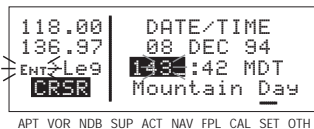

Figure 3-166
- Move the flashing part of the cursor to the tens of minutes, select the proper number (figure 3-166), then move on to the last digit and set it.